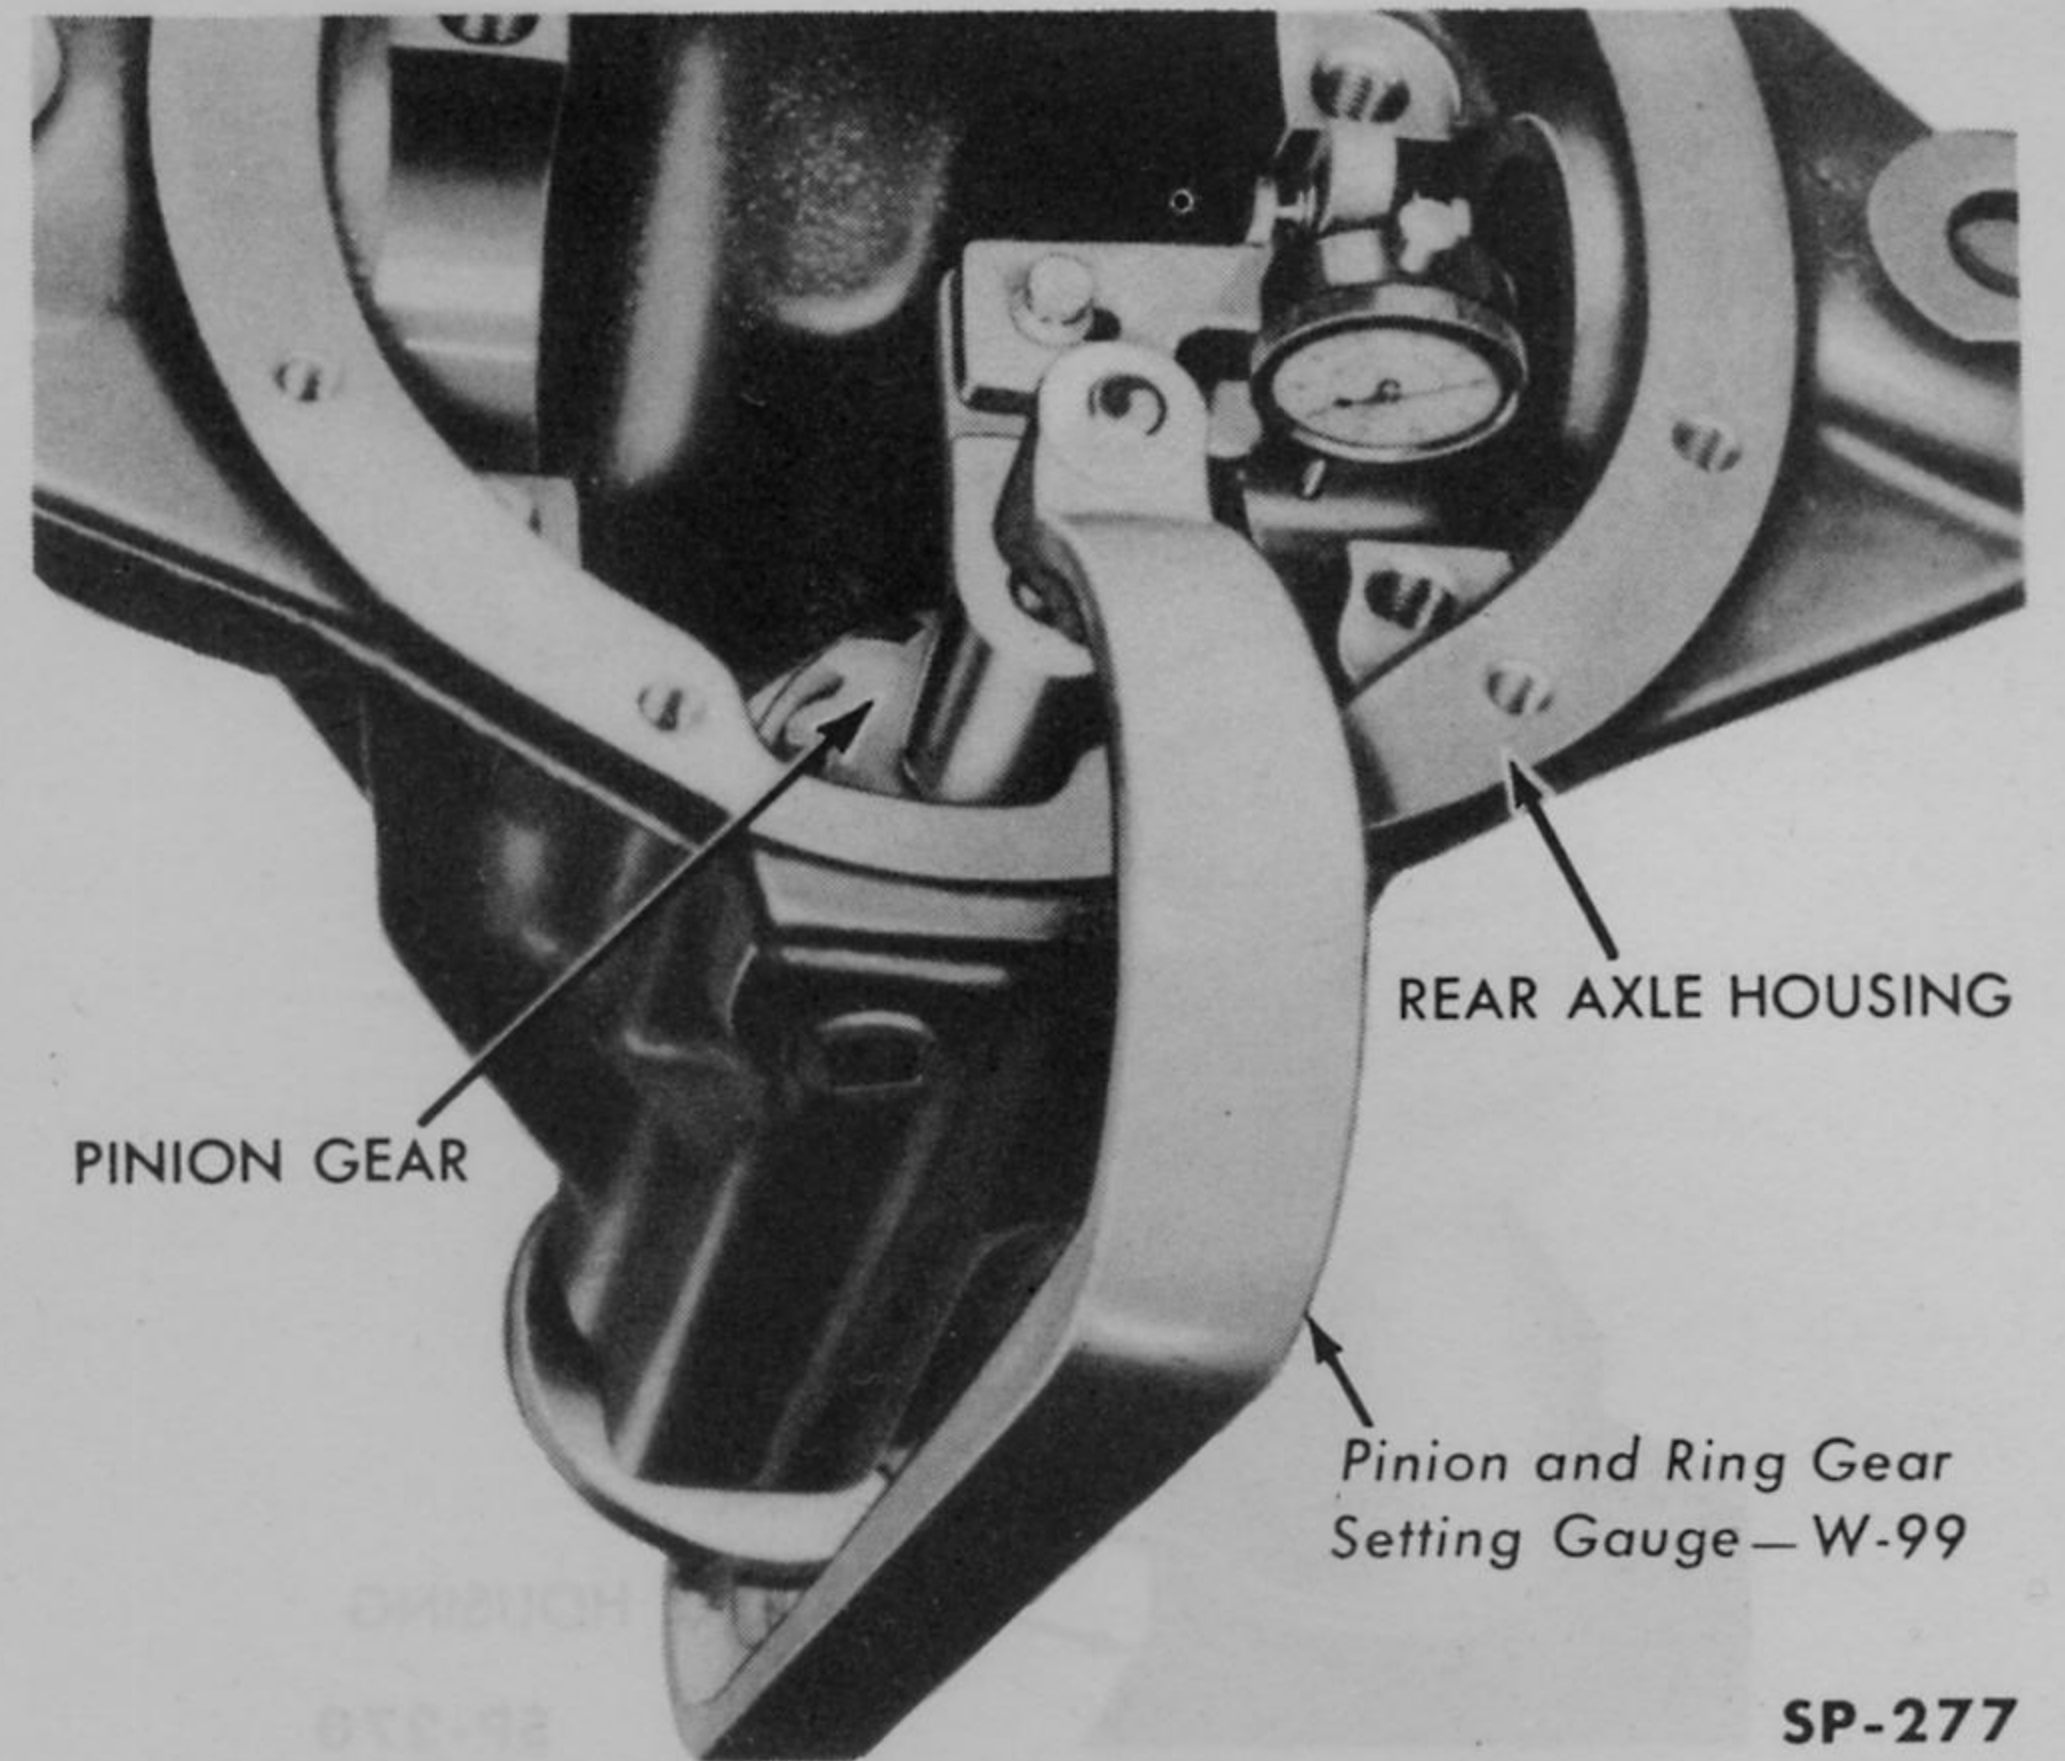

Fig. 273—Pinion to Drive Gear Adjustment
7. With the dial indicator adjusted to the correct section of the Gauge Block, rotate the gauge assembly so that the dial indicator button contacts the bottom surface of the differential housing right side bearing bore (Fig. 273).